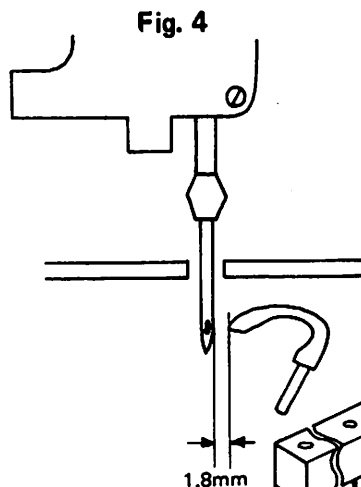

Fig. 4
- 2) Fasten retainer lever (A) in Fig.4 on looper retainer lever. Adjust the clearance between looper and needle using a 3.0 mm bar gauge. Then, fasten screw (A).
- 2) Loosen screw (B) in Fig.4 for retainer eccentric ball.
- When the best timing is obtained by turning the pulley, tighten screw (B) in Fig.4.
- 2) Fasten retainer lever (A) in Fig.4 on looper retainer lever. Adjust the clearance between looper and needle using a 1.8 mm bar gauge. Then, fasten screw (A).